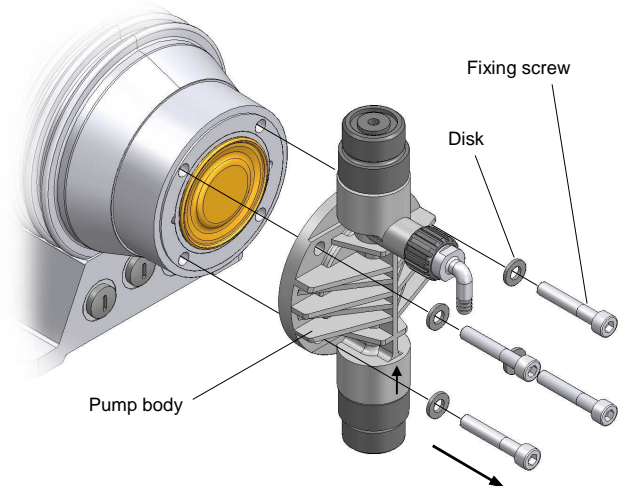

Fig. 42 (Disassembly of pump body)
- Remove pump body (with valves) to the front (see Fig.42)